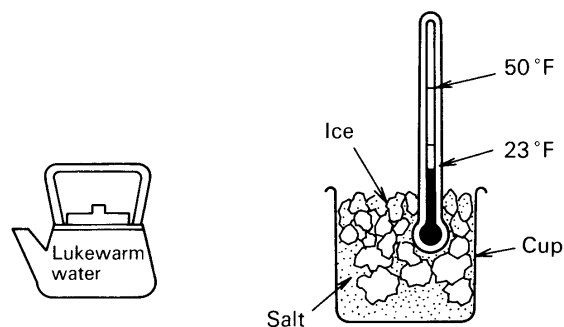

Fig. 13
- 5) If discontinuity around 23 °F is confirmed, pour lukewarm water (not boiling hot) and observe continuity around 50 °F. Fig 13